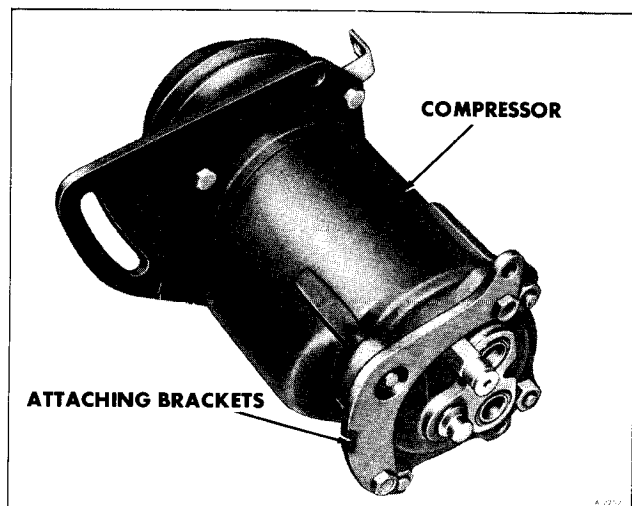

Figure 29 -Compressor Removed From Vehicle
8. Remove compressor and attaching brackets and shield by sliding rearward and dropping out bottom. Be sure compressor is removed with attaching brackets as shown in Figure 29.